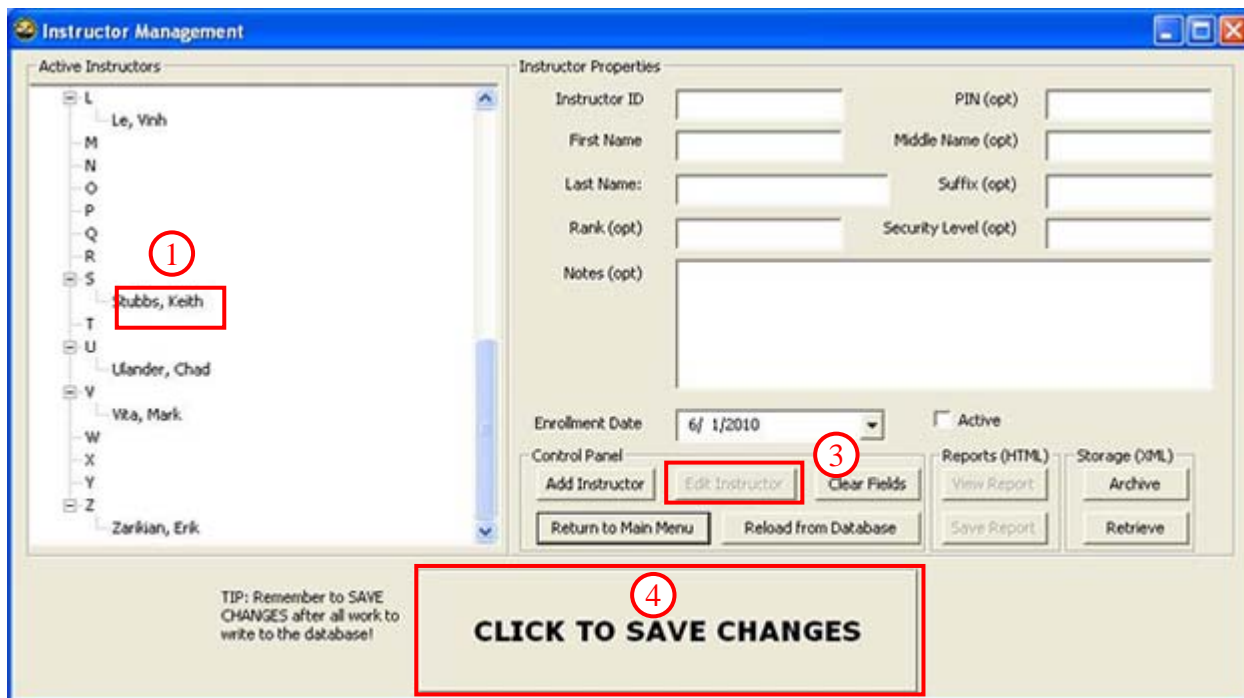

Figure 35. Instructor Management - Edit Instructor
1. Select an instructor from the Active Instructors list (Figure 35).